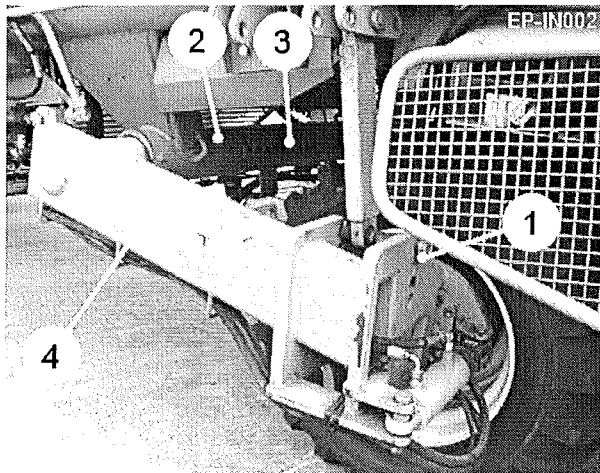

Fig 3
When the wheel is clear of the ground, place an axle stand (minimum capacity 2500 kg) under a suitable part of the chassis frame. Adjust the jack until the retaining pin (item 1, figure 3) of the levelling ram/support leg is loose and can be removed. The axle can then be raised or lowered until the hole in the levelling ram/support leg aligns with the required hole and the retaining pin can be replaced. Repeat the operation on the opposite side of the machine ensuring both sides are set to the same position.
Fit the two halves of the PTO shaft onto their respective drive shafts on the machine and tractor. Check the shaft length by turning the tractor fully in both directions with the machine in its working position while attached to the tractor's pick-up hitch. Ensure the sliding tubes, when fully extended, have an overlap at least half the closed length (see figure 3). Ensure that the ends of the sliding tubes when at the shortest point are not in contact with other parts of the PTO shaft. If necessary, shorten both tubes and guards equally to achieve end clearance at the minimum length position.
Place chocks at the front and rear of the opposite side wheel to the one being adjusted. Jack up the machine using the jacking point situated under each axle radius arm. Place an axle stand under the axle beam (item 2, fig 3) and lower the jack to allow the axle stand to take the weight of the machine. Remove the axle beam pin (item 3, fig 3). Slide the axle (item 4, figure 3) to the required position (see figure 4) and replace the pin. Repeat the operation for the opposite side wheel. Both axles must be set correctly even though the RH wheel runs on cleared ground. Ensure linchpins are refitted after adjustments have been completed.